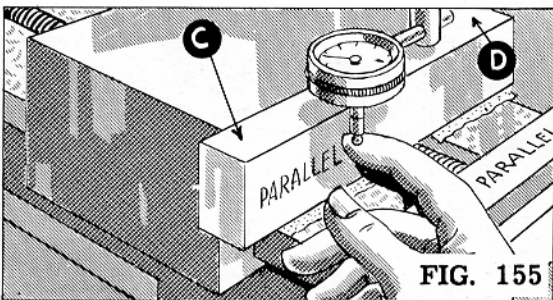

FIG. 155
19. Note the measurement on the dial. Then, move the ram to the forward position (B). If the vise is parallel, the indicator will show the same reading at both ends of the parallel.
20. Bring the surface (C) of the second parallel under the indicator. NOTE: Raise the contact shaft slightly with the finger as the parallel is moved directly underneath the point of the indicator as shown in Fig. 155.
21. Release the contact shaft and allow the contact point to rest on the parallel. The reading at (C) should be the same as the readings at (A) and (B).